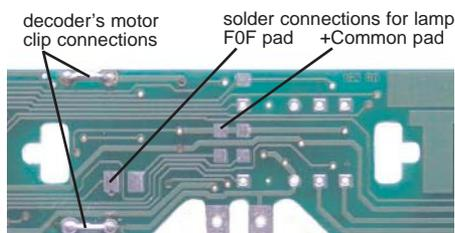

Figure 3. Solder lamp to decoder
6. The lamp is soldered to the pads on the decoder indicated in *Figure 3*. The lamp needs to be placed in the center of the board in order to fit between the light pipes located in the shell. Trim the lamp leads to fit. It is advisable to insulate the lead to the FOF pad to avoid a short on the pad next to it.